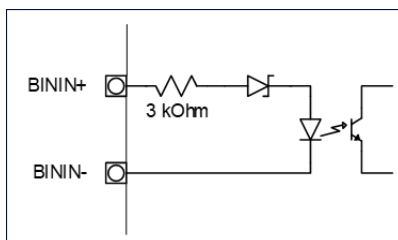
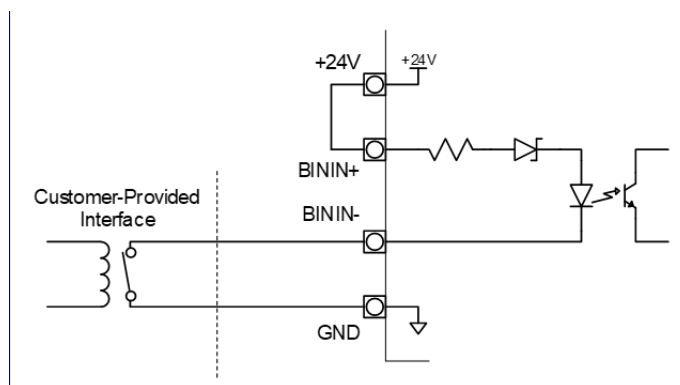

Figure 5: Isolated State Input Circuit Detail
Figure 6: Instrument-Powered Isolated State Input Circuit Application
- Binary (Start/Stop) Inputs — Table 3, "Isolated State Inputs \(J2\)," on page 70 and Figure 5: Isolated State Input Circuit Detail on page 71 and
Figure 6: Instrument-Powered Isolated State Input Circuit Application on page 71.
The Sievers M500 TOC Analyzer has two isolated binary inputs. These can be wired in a variety of ways and are intended to execute a start/stop commands to the Analyzer from a remote location, such as a Process Logic Control (PLC) System or Center. Pin-out details are included in Table 3. Wiring examples are shown in "Figure 5: Isolated State Input Circuit Detail" on page 71 and "Figure 6: Instrument-Powered Isolated State Input Circuit Application" on page 71.